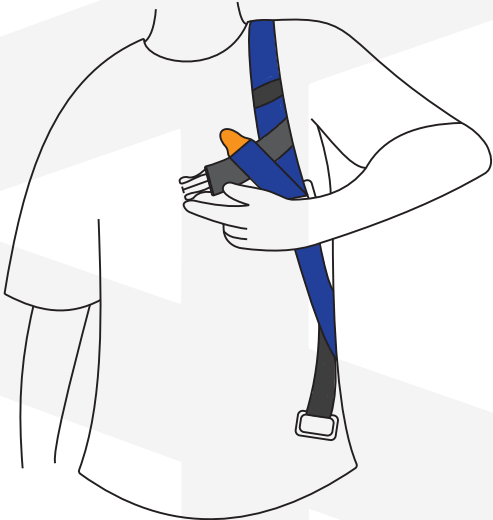

Fig 3
3. Fasten the plastic side release buckle at the chest. (Fig 3)